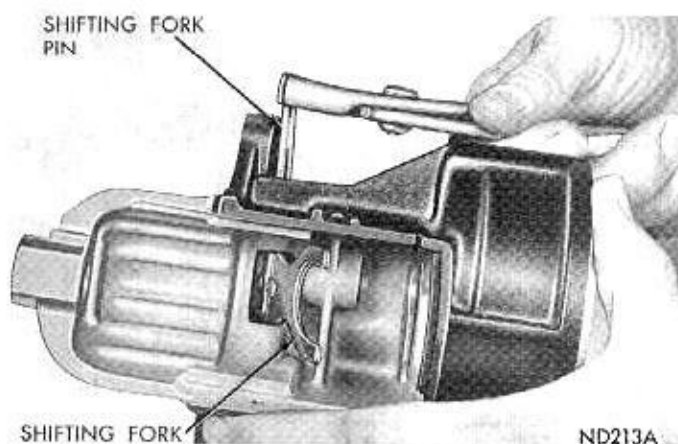

Fig. 11—Removing or Installing Shifting Fork Pin
(20) Remove shifting fork retainer pin (Fig. 11) and remove clutch shifting fork assembly.